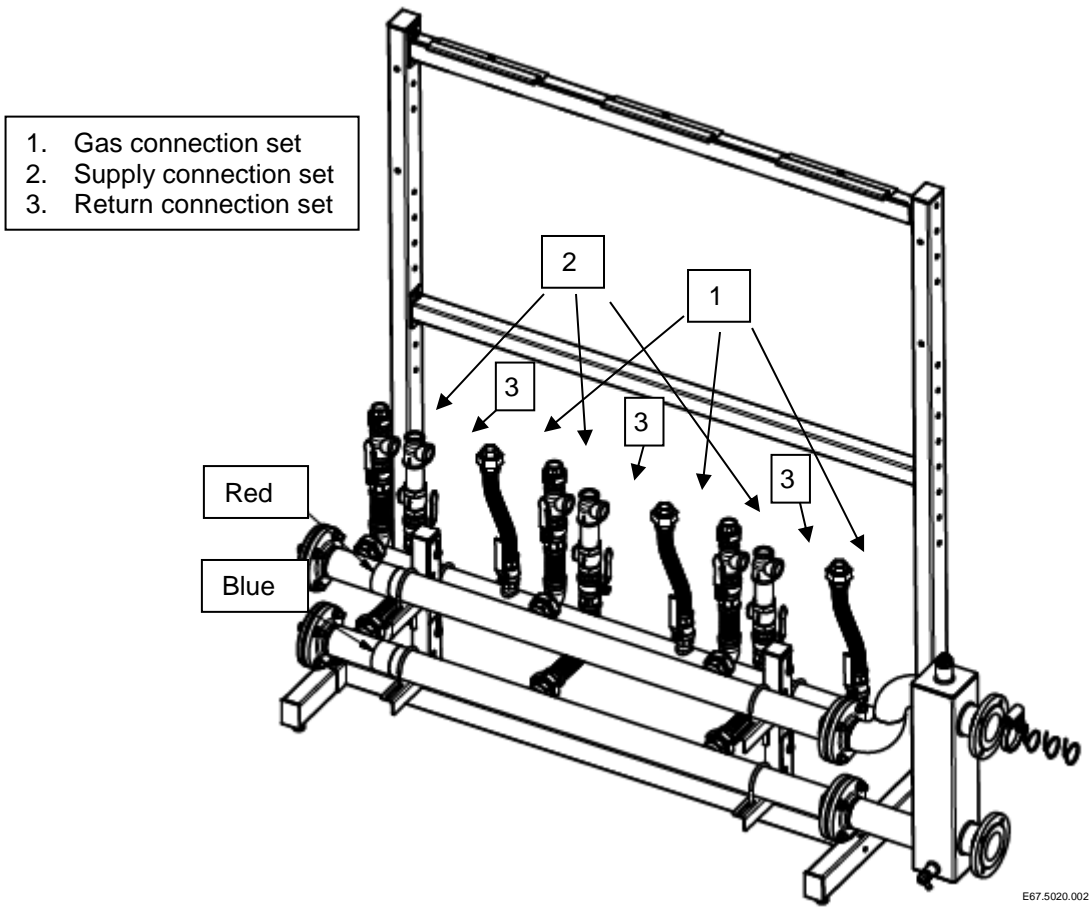

Figure 6.3 Headers and connecting sets
3. Mount the connecting sets for the return header. See also Figure 6.3.
6. Mount the connecting sets for the supply header. See also Figure 6.3.